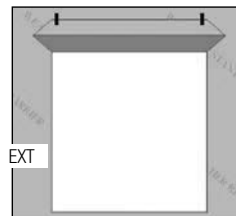

FIG. 3
- F) From the exterior, cut the top of the WRB as shown to form a flap. (Fig. 3)
- G) Temporarily tape this top flap up. (Fig. 3)